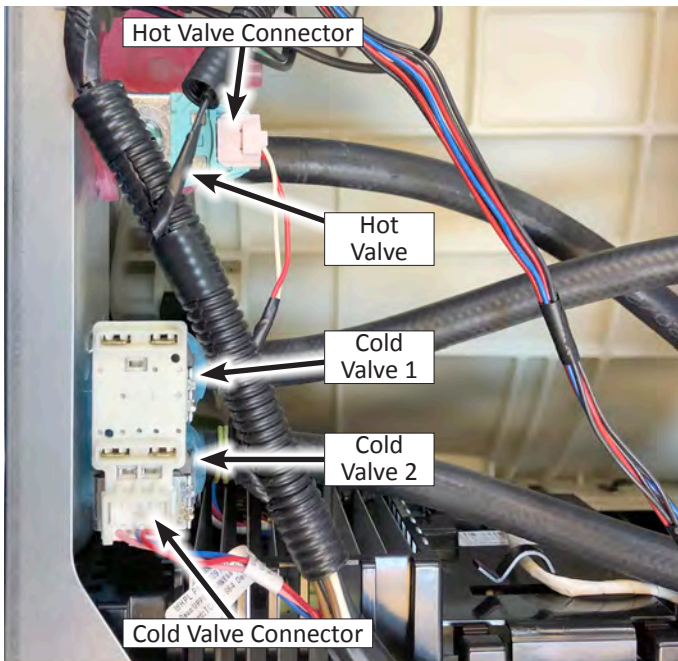

Figure 1
5. Disconnect the water inlet valve connector(s) (see Figure 1).